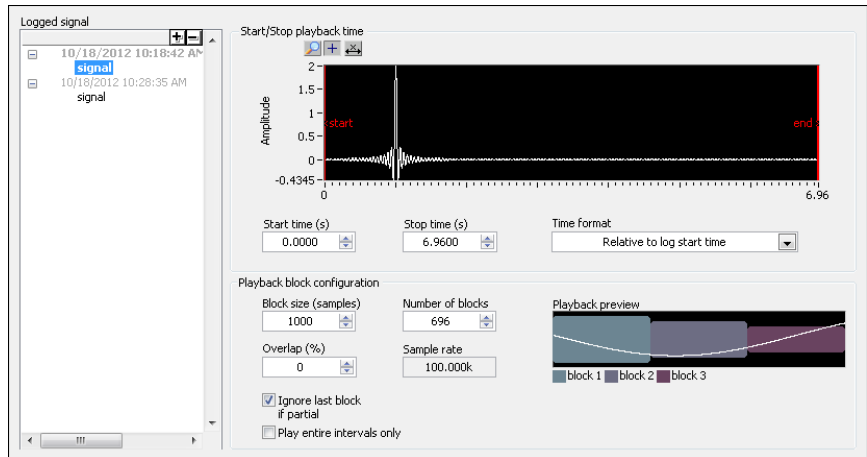

Figure 4-5. Playback Options Tab
1. Select **View»Playback Options** to display the **Playback Options** tab, as shown in Figure 4-5.